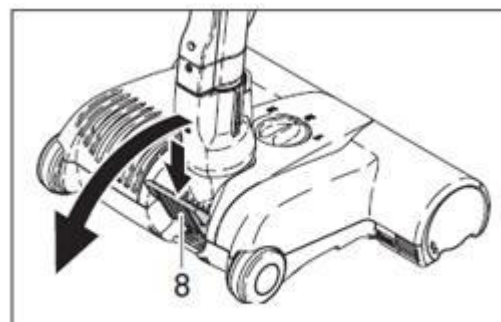

Figure 3
Operating The Machine - Figure 3
B. When the power head is switched on with the handle in the upright locked position (see figure 1 above), the brush roller will not spin. To release the power head from the upright locked position, press down on the foot pedal (#8, figure 3) and lower the handle into the normal operating position. The brush roller will then start spinning and the green light on the power head will illuminate.